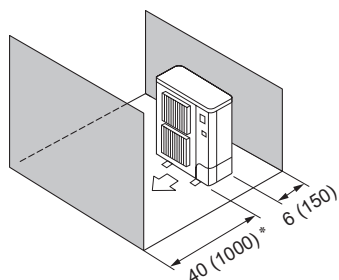

Fig. 2-9
- ⑤ Obstacles at front and rear (Fig. 2-9)